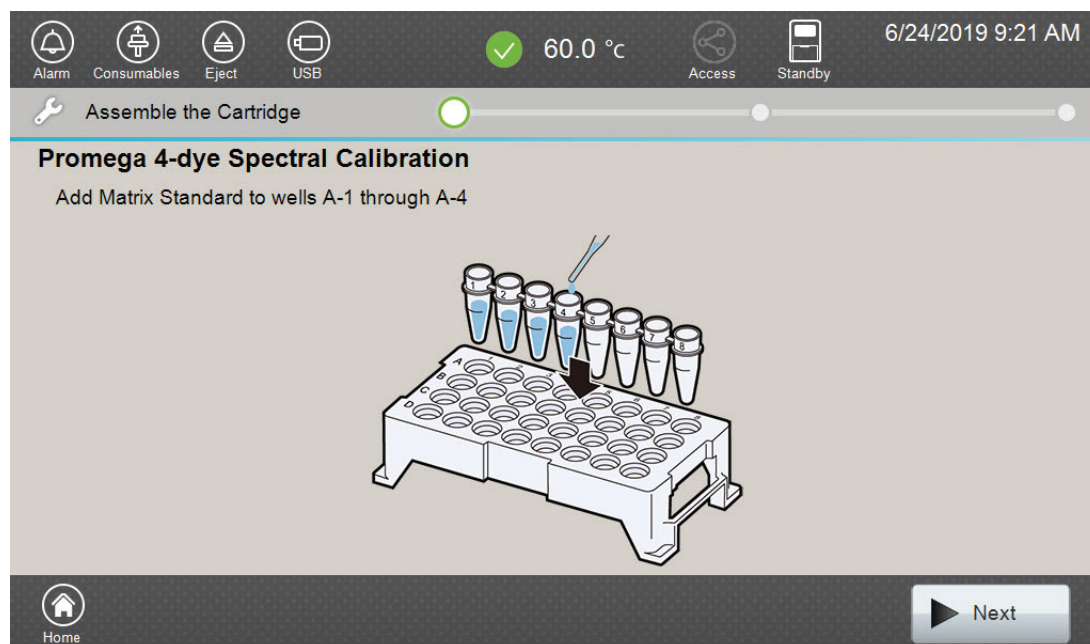

Figure 21. 'Assemble the Cartridge' screen.
4. Use the scroll arrows on the right-hand side of the 'Dye Set List' screen (Figure 20) to find the correct Dye Set/Application Type/Polymer combination from the displayed list. To perform a spectral calibration using the PowerPlex® 4C Matrix Standard on Polymer4, select **Promega 4-dye** with "Fragment" and "Polymer4" as application and polymer types, respectively, then select **Calibration**. The 'Assemble the Cartridge' screen will open (Figure 21).
5. Select **Next** on the 'Assemble the Cartridge' screen (Figure 21). A message window will open indicating that the autosampler is moving and telling the user to not open the door. In addition, the status indicator flashes green while the autosampler is moving. After autosampler movement is complete, the message window closes and the status indicator returns to a steady green.